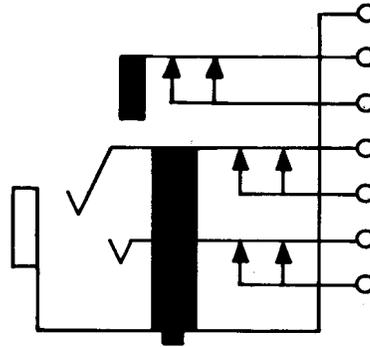

Fig. 5—580-Type Jack
**2.05 580A, C, and E:** These are single-mounted jacks (Fig. 5).